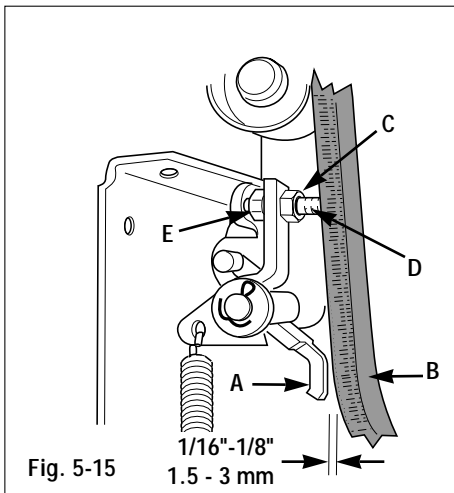

Fig. 5-15
Check the gap between the brake arm (A, Fig. 5-15) and the belt (B). The gap should measure between 1/16" and 1/8" (1.5–3 mm).
4. To adjust the gap: Loosen nut (C). Hold the bolt (D) in place and rotate nut (E) until the proper clearance is obtained. Secure nut (C).